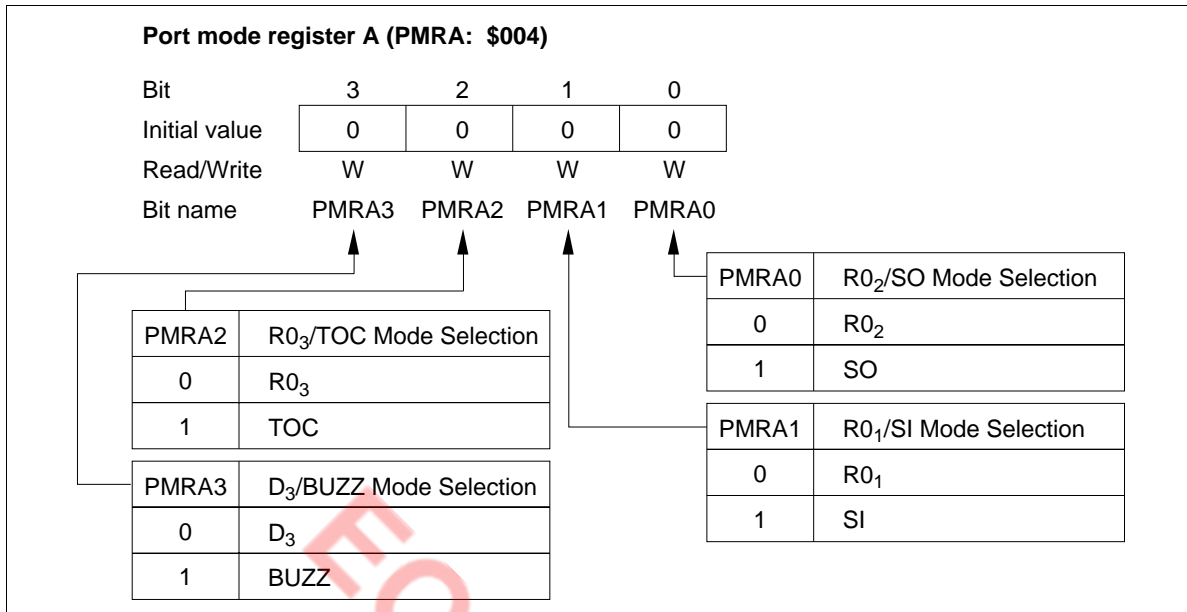

Figure 51 Port Mode Register A (PMRA)
- Port mode register A (PMRA: \$004): Write-only register that selects RO₃/TOC pin function as shown in figure 51. It is reset to \$0 by MCU reset.
Port Mode Register A (PMRA: \$004): Four-bit write-only register that selects D₃/BUZZ pin function as shown in figure 51. It is reset to \$0 by MCU reset.